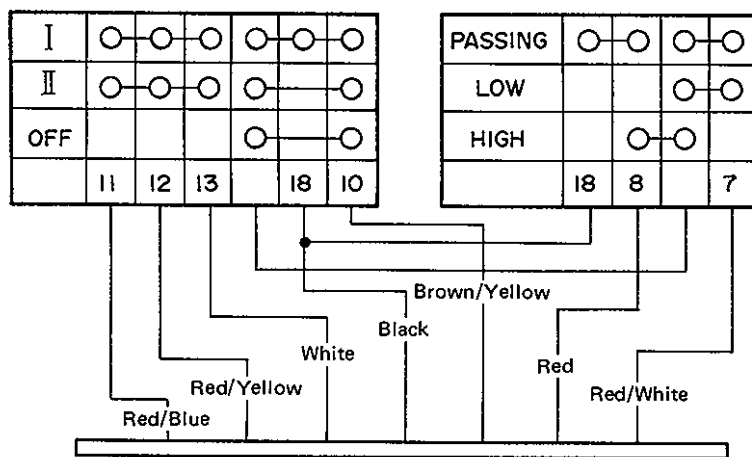

Fig. 21-4
Using a circuit tester, check the respective circuits for continuity by putting the tester probe pins to the terminals shown in Fig. 21-4. With the switch kept in LOW BEAM position; the tester should indicate continuity between terminals ⑦ and ⑮. Similarly, there should be continuity between terminals ⑧ and ⑮ when the switch in HIGH BEAM position.